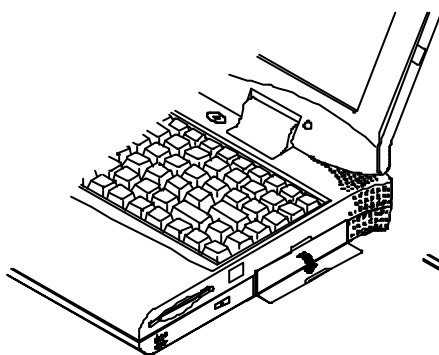

Figure 2-16.1
- Open the access door (Figure 2-16.1).